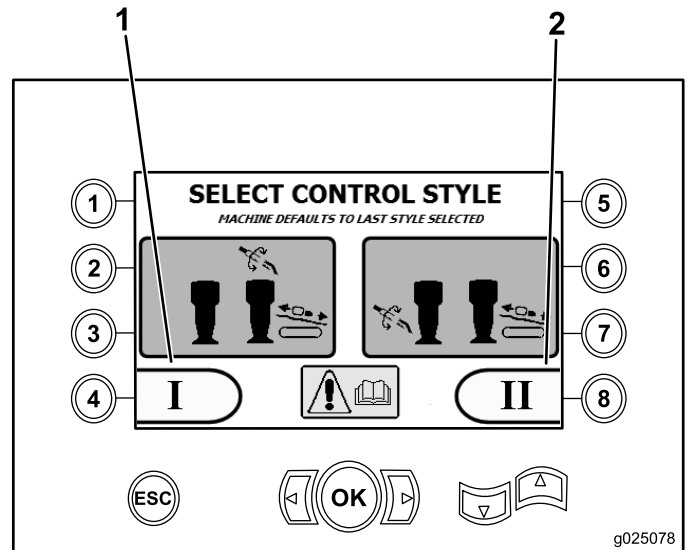

Figure 13
- Mode I—This function places the drilling functions on the right joystick, while the left joystick operates the pipe loader and the wrench functions (Figure 13).
Press button number 4 to select this function (Figure 13).
- Mode II—This function splits the drilling, wrench, and pipe loading between the left and right joysticks (Figure 13).
Press button number 8 to select this function (Figure 13).